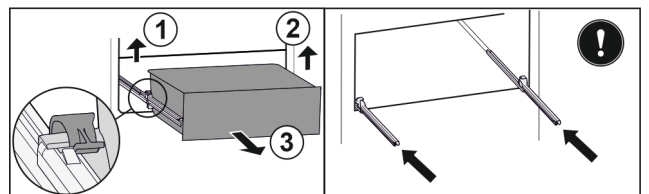

Fig. 146
- Lift left clamp and simultaneously pull drawer forwards on the left. Fig. 146 (1)
- Lift right clamp and simultaneously pull drawer forwards on the right. Fig. 146 (2)
- Remove drawer to the front. Fig. 146 (3)